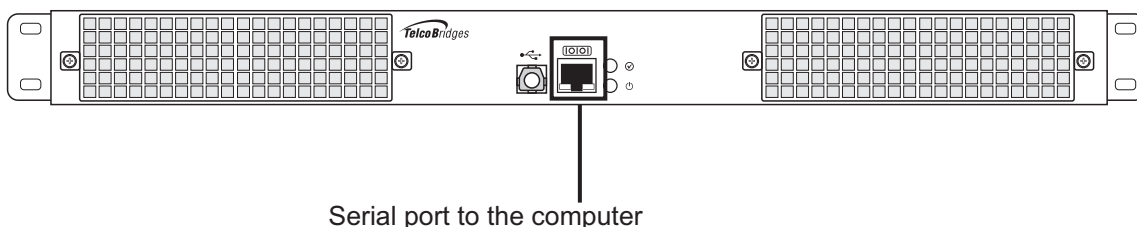

Figure 3.2 Computer to 800 Series Gateway Serial Port Connection
1. Connect one end of a CAT5 RJ-45 (male-male) cable to the Tmedia serial adapter (both supplied with unit). Connect the DB9 to RJ-45 to the serial port of the computer and the other end of the CAT5 RJ-45 (male-male) cable to the serial port (labeled 10101) of the 800 series gateway as shown in figure 3.2 on page 43. See Section A.2 “Tmedia Serial Adapter Wiring Diagram” on page 52 for a RJ-45 pin out description.